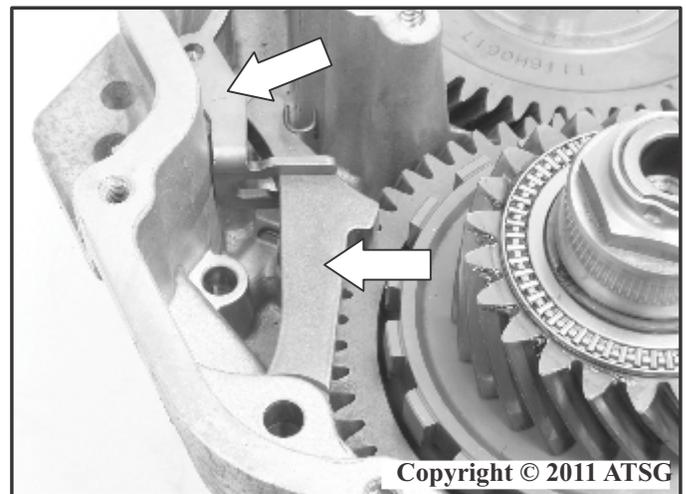

Figure 42
55. Remove the parking pawl actuating bracket and the parking pawl lever as shown in Figure 42.